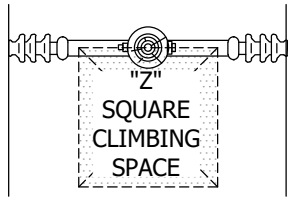

FIGURE 5
- V. CLIMBING SPACE IS TO EXTEND FROM 4-FOOT BELOW LOWEST CONDUCTOR TO 4-FOOT ABOVE THE TOP OF CONDUCTOR AND SHALL HAVE DIMENSIONS AS SHOWN IN FIGURE 5.